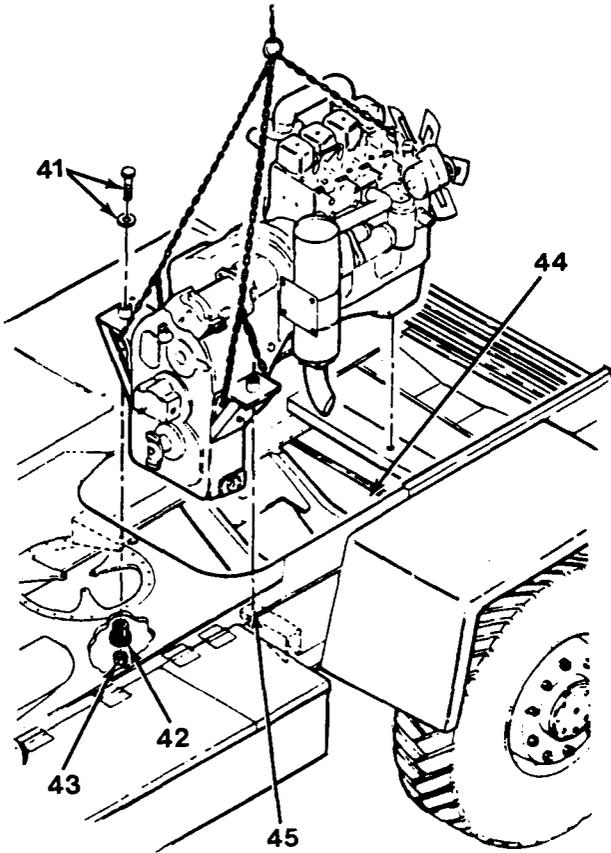

Figure 18-6
1. Using hoist and chains, lower engine/transmission assembly into position over frame. Slowly lower and guide assembly back into its location in frame. Install four spacers (42), washers and capscrews (41), and nuts (43) to four mounting locations (44) and (45, Figure 18-6) and tighten.